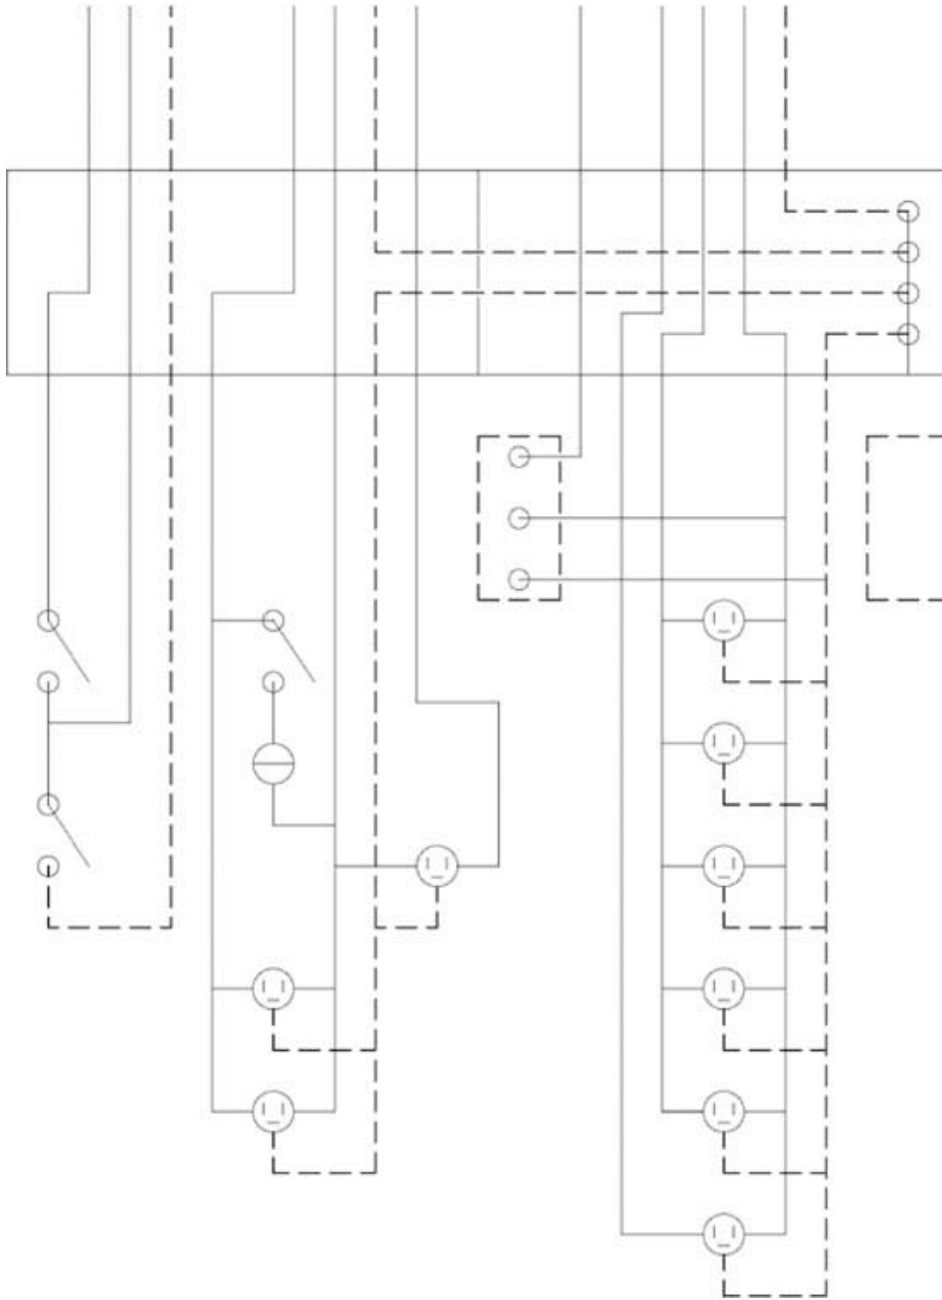

Figure 6-40
3. Change the solid geometry shown in Figure 6-40 to the **E-Risr** layer. Change the hidden geometry shown in Figure 6-40 to the **E-Risr-Hide** layer.